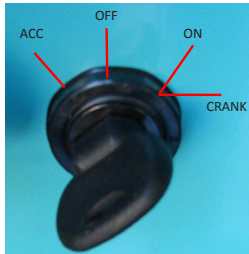

Figure 15. Ignition Key ON
2. On the trowel, turn the ignition key to the ON position (Figure 15). This will turn on the MCU. It is not necessary to crank or turn on the engine.